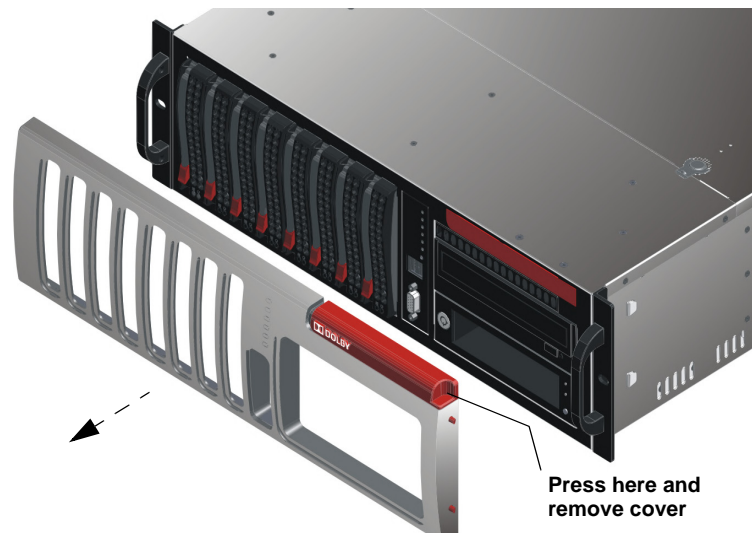

Figure 4-2 Remove DSS200 Front-Panel Cover
2. Remove the front-panel cover by placing a finger on the cover's indented area (in the upper-right corner), while pressing inward (to the left) and gently pulling the cover out of the front panel (see Figure 4-2).